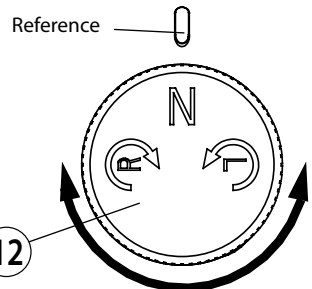

FIG. 4
3.4) Setting the rotation direction (Ref. to Fig. 4)